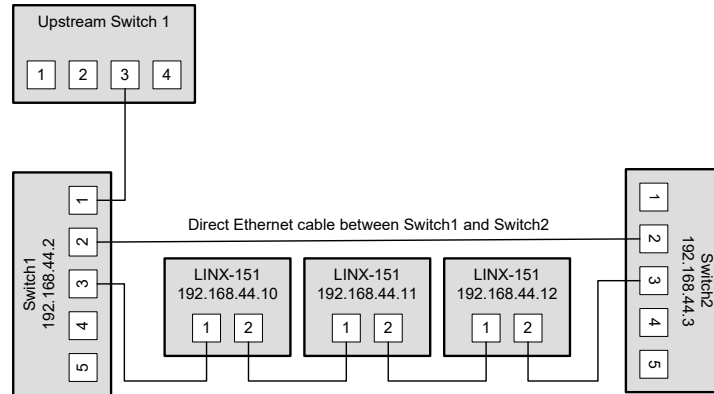

Figure 154: Single upstream connection.
**Single upstream connection:** Switch1 (or Switch2, but not both) is connected to the upstream network while Switch2 only provides a redundant path to the Loytec devices. The redundant path is created by a direct Ethernet cable between Switch1 and Switch2 which needs to be plugged into a lower-numbered port than the L-IP devices are connected to. If this is not possible, the STP port priority for the cross-connection cable needs to be set to a low value. The RSTP domain should be restricted to Switch1 and Switch2. This can be done by enabling a BPDU filter on the port on Upstream Switch 1. This will block all RSTP packets to enter the upstream network. A sample setup for this topology is shown in Figure 154.